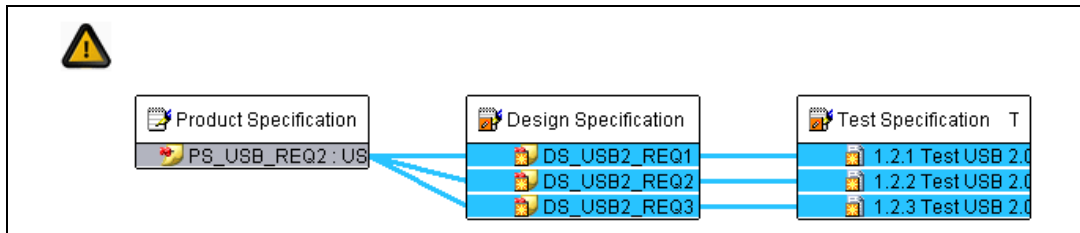

Figure 3-15. PS_USB_REQ2 Selected in Graphical View
5. Right-click in the **Graphical View** and select **View Graph for Selection** from the context menu. When you select this option, the Graphical View displays only the highlighted elements from the three documents, as shown in Figure 3-15.